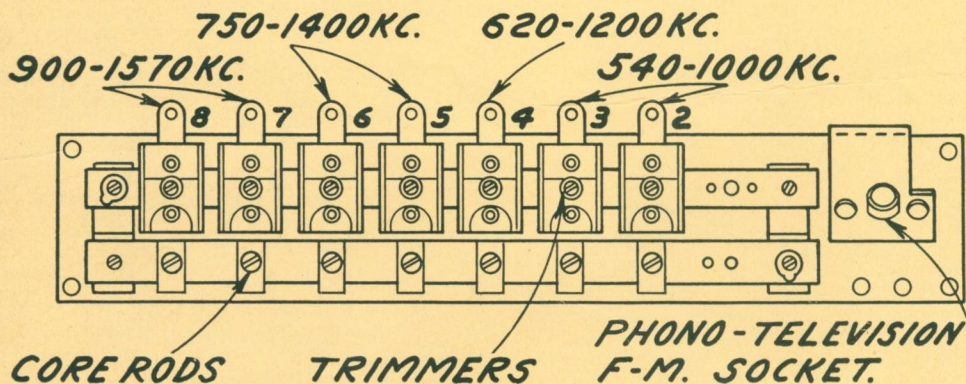

Figure 1
Each particular push button has a given range of frequencies which it covers. Choose stations covered by the frequencies as shown in Fig. 1, looking in the back of the receiver.
(3) Referring to Fig. 1, adjust the small core rod located directly below Trimmer No. 2 until 560 k.c. station is heard. This adjustment should be made with the small screw driver supplied with the receiver for this purpose.
(4) Adjust Trimmer No. 2 until station is heard at its best.
(5) Proceed in order of frequency to adjust the other six stations as outlined above.
(6) After the set-up is made for all seven stations, make a final adjustment of all core rods, until best reception is obtained.